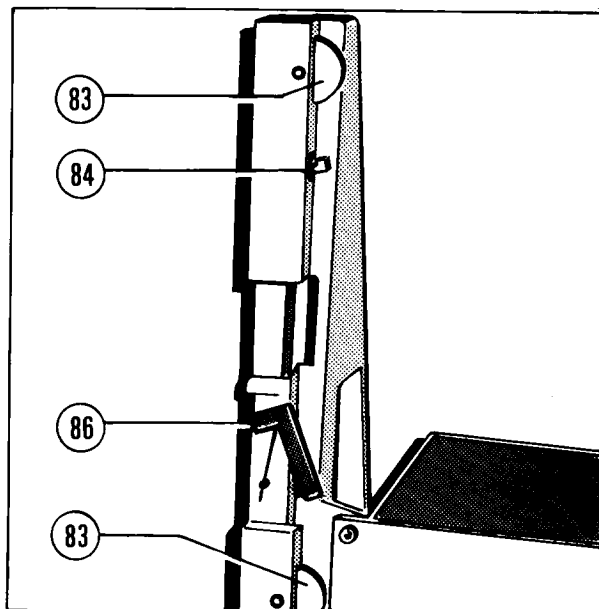
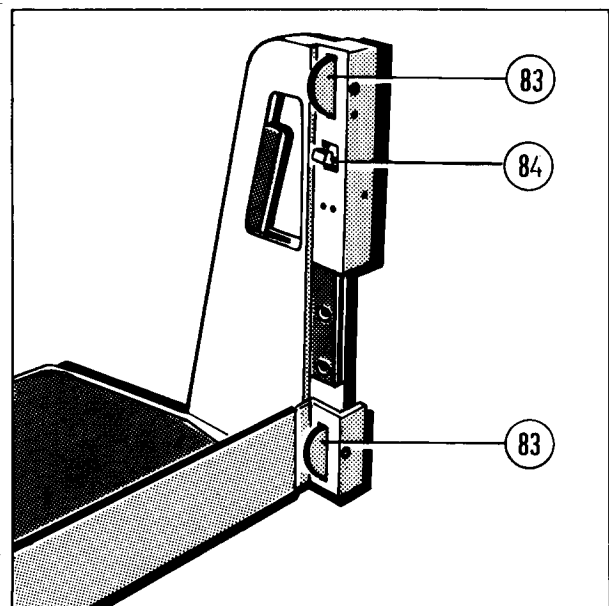

Fig. 27
Fig. 28
- Check the rollers (Fig. 27/item 83 and Fig. 28/item 83) for traces of wear and replace if necessary.
- Check the locking levers (Fig. 27/item 86) upon damage.
- Check guide blocks (Fig. 27/item 84 and Fig. 28) for signs of wear und proper function. Replace if necessary.